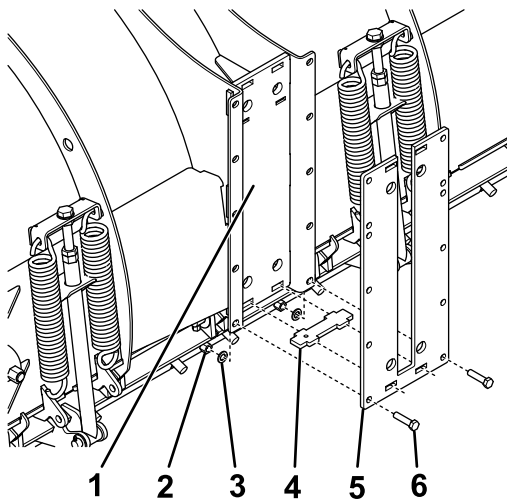

Figure 8
1. Apply grease to the hitch plate (Figure 8).
2. Insert a hitch plate spacer into the notches on the bottom of the hitch plate (Figure 8).
3. Loosely secure the bottom attachment plate to the hitch plate using 2 bolts (1/2 x 1-1/2 inches), washers, and locknuts (Figure 8).